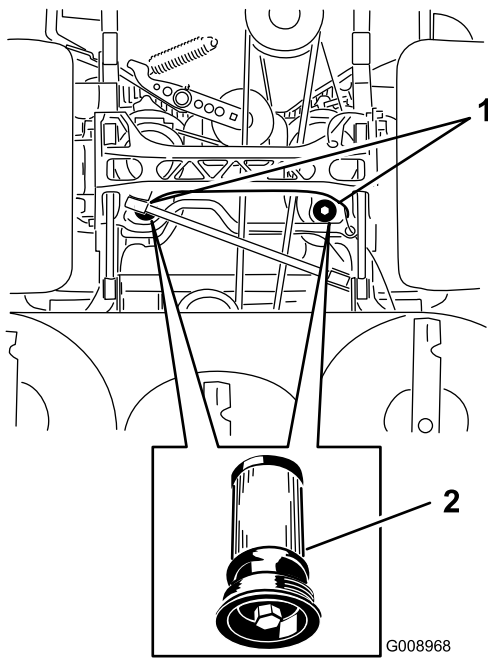

Figure 87
5. Place a drain pan under the filter, remove the old filter and wipe the surface clean (Figure 87).
6. Apply a thin coat of hydraulic oil to the rubber gasket on the replacement filter (Figure 87).